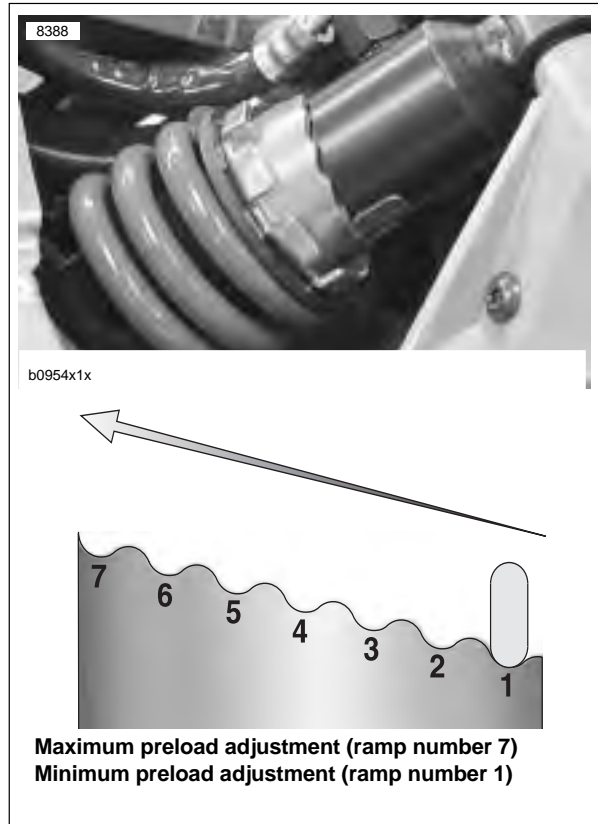

Figure 1-32. Rear Shock Preload Adjuster
2. See Figure 1-32. Change the spring preload by turning the preload adjuster at the upper part of the shock with the SHOCK SPANNER WRENCH (HD-94700-52C) or the wrench included in the tool kit.